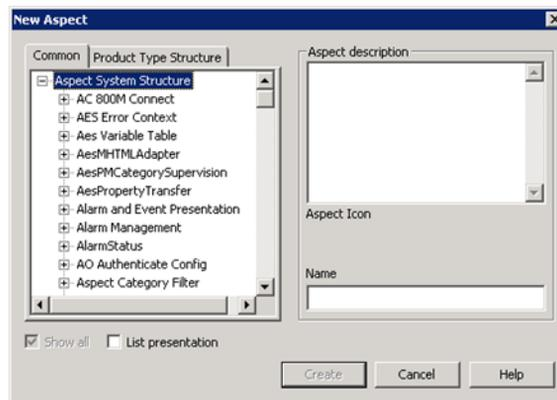

Figure 203. New Aspect window
2. Right-click the selected object and select **New Aspect** from the context menu. The New Aspect window appears as shown in Figure 203.